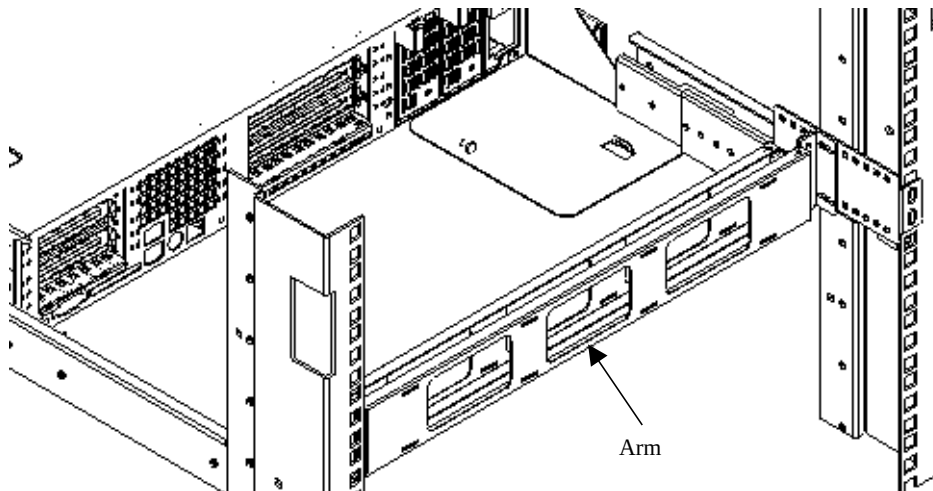

Figure 2-30. Completed Cable Arm Assembly
7. Press in on the rail release latches and slowly push the server in and out of the system rack several times. Ensure proper movement of the cable arm. Adjustment of the cable arm hinged brackets may be necessary to attain smooth operation. Tighten all screws. Ensure the server can be fully closed and secured to the rack. See Figure 2-30.